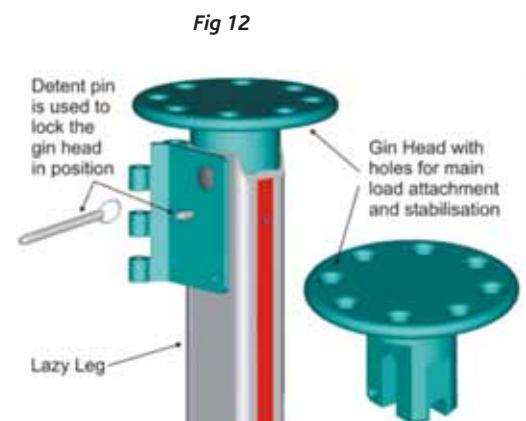

Fig 12
2. Ensure the Foot Locating Spike feeds easily through Standard Foot hole as illustrated in Fig 12.
GIN HEAD INSPECTION (Fig 12)